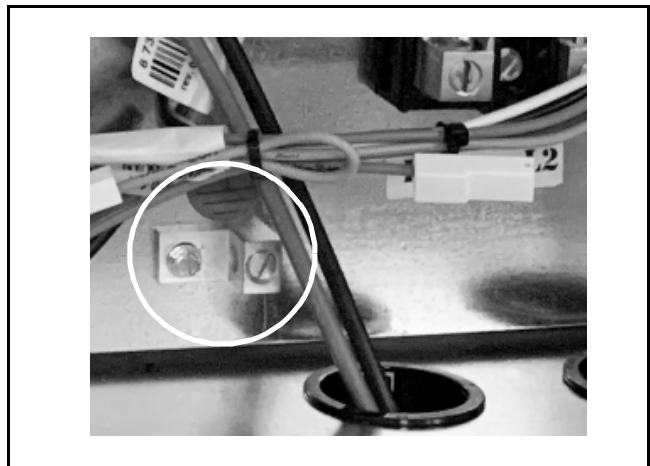

Fig. 29 Ground Lug
6. Use the ground lug provided in the Electric Heat Control Box to connect the field ground wire from the power supply. (See Fig. 29.)